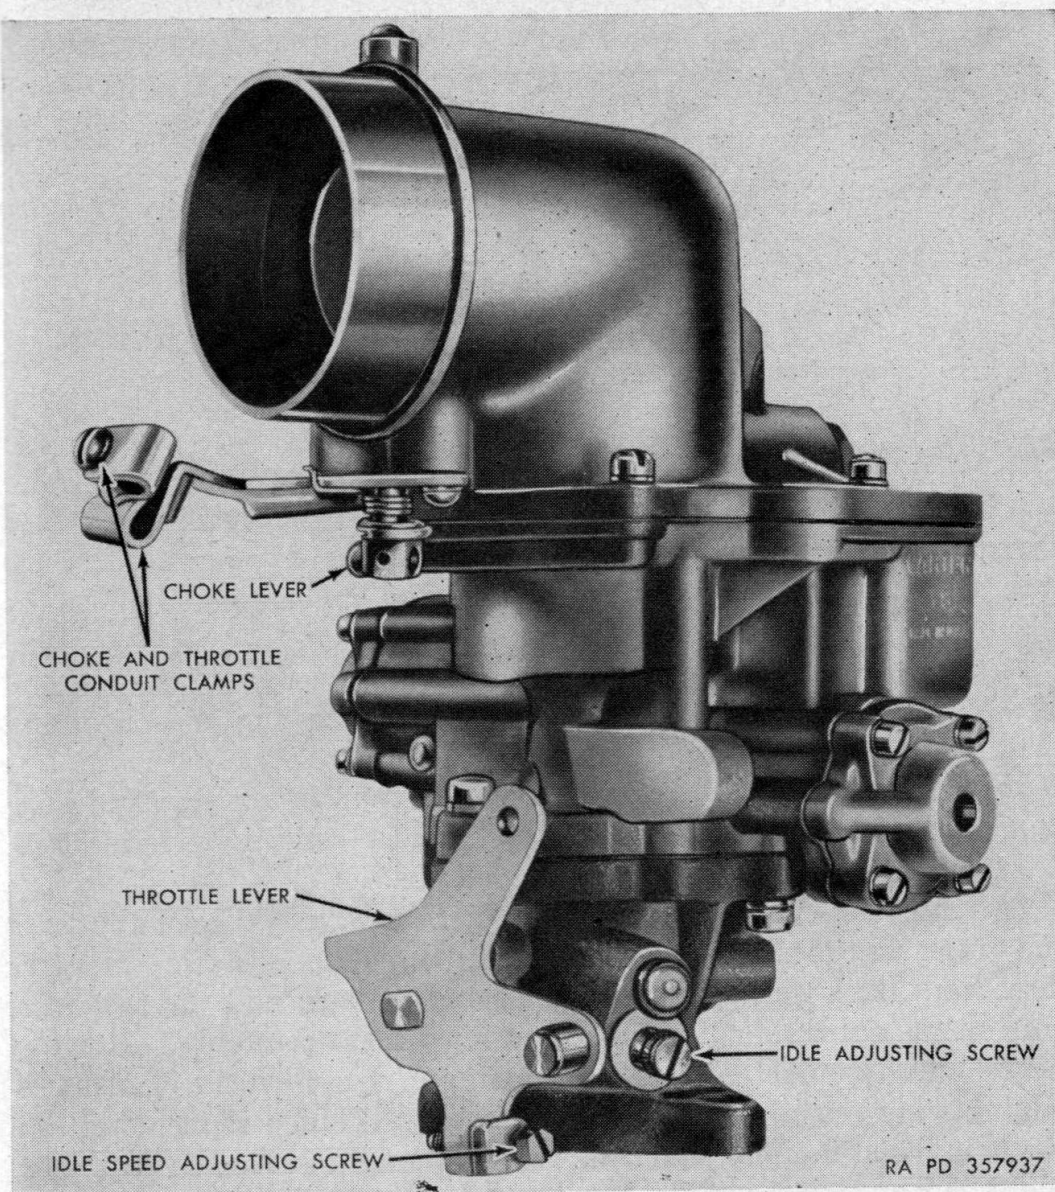
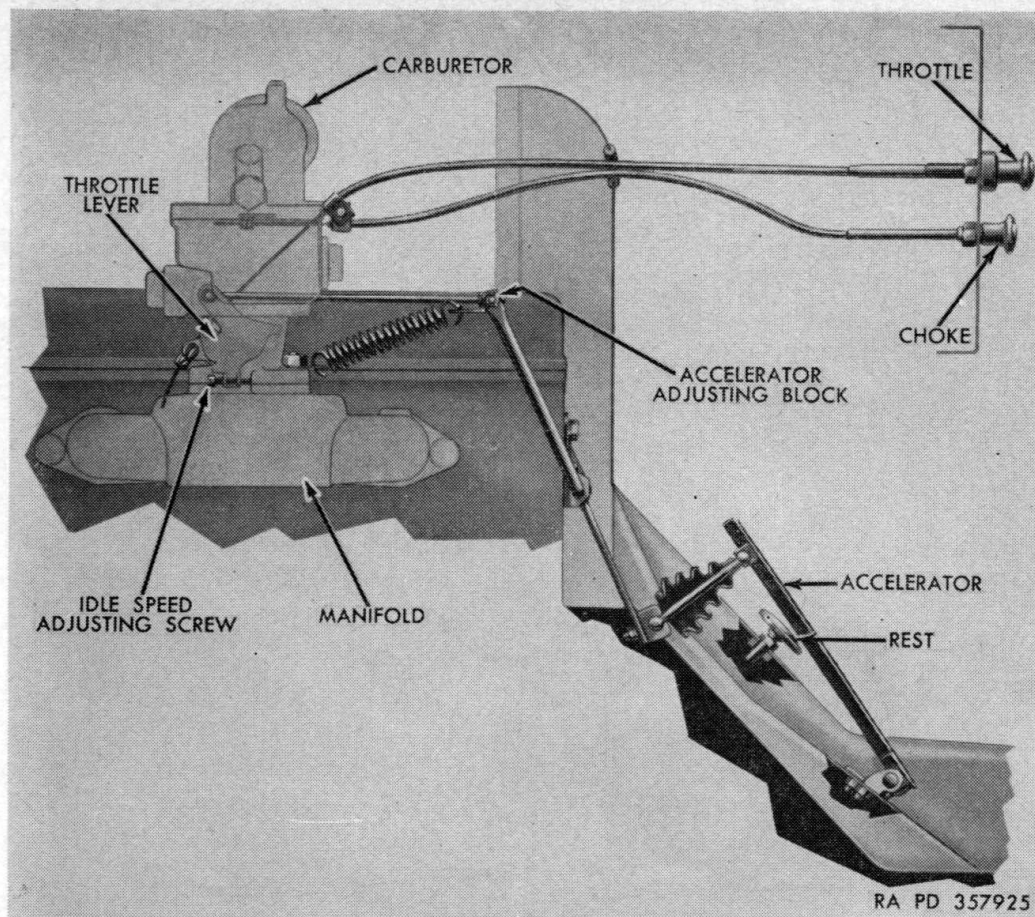

Figure 27. Carburetor.
Figure 28. Accelerator and choke linkage.
- (3) *Carburetor.* The carburetor is a special waterproof unit sealed at the control and adjustment connections through the housing. The float chamber is vented by a tube to the air cleaner to carburetor tube (fig. 27).
*a. ADJUSTMENT.* Low speed or idle adjustment is accomplished by just seating the idle adjustment screw (fig. 27) and opening between one and two turns, making final setting with a warm running engine. The idle speed can be set to about 600 rpm with idle speed screw on throttle lever (fig. 27). Should the accelerator linkage need adjusting, the treadle should be set to just strike the toe board, with the throttle wide open, by adjusting block screw (fig. 28).
*b. REMOVAL.* Disconnect throttle and choke controls (fig. 28). Remove air tube by loosening clamp and remove the vent tube (fig. 7).
c. INSTALLATION. Set flange gasket over studs on manifold and set on the carburetor. Secure with the two mounting nuts and washers. Connect the air tube, vent line, gas line, and choke and throttle controls (fig. 28). Make idle adjustment and accelerator linkage adjustment (a above).